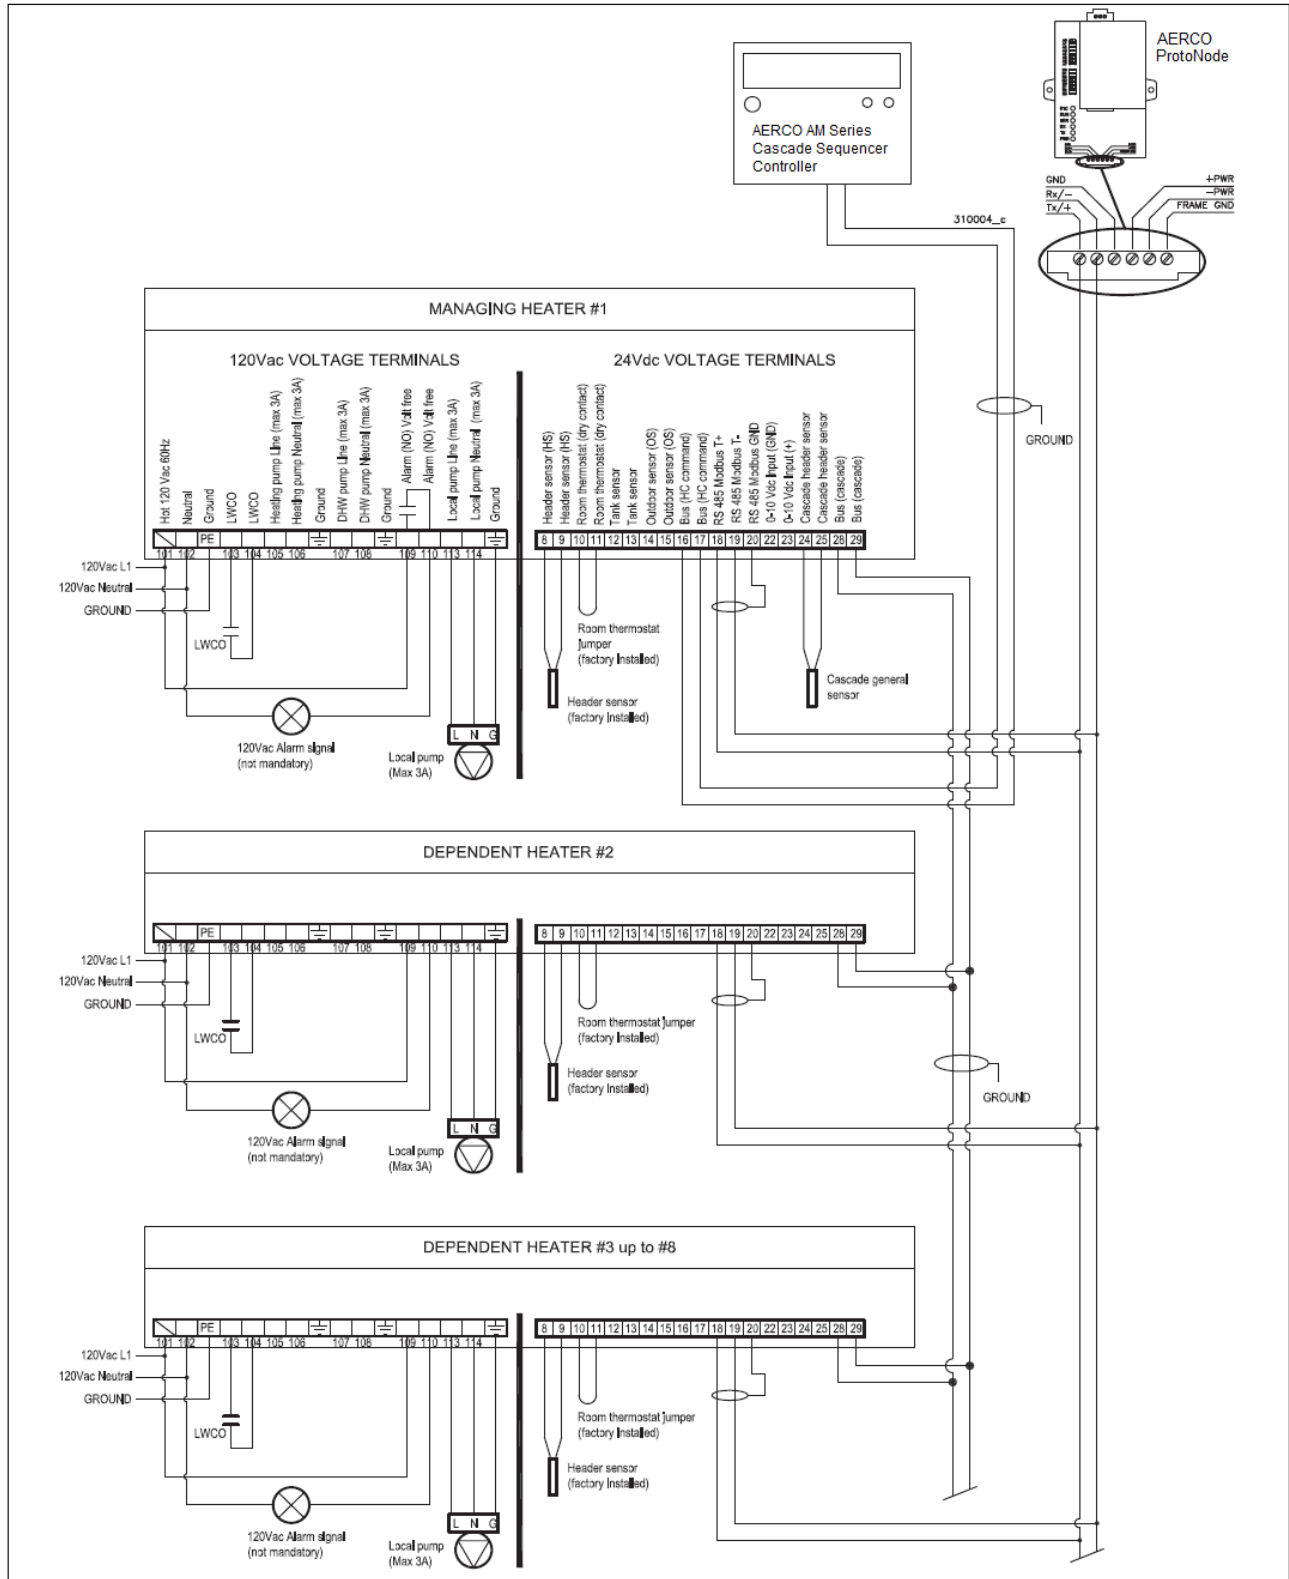
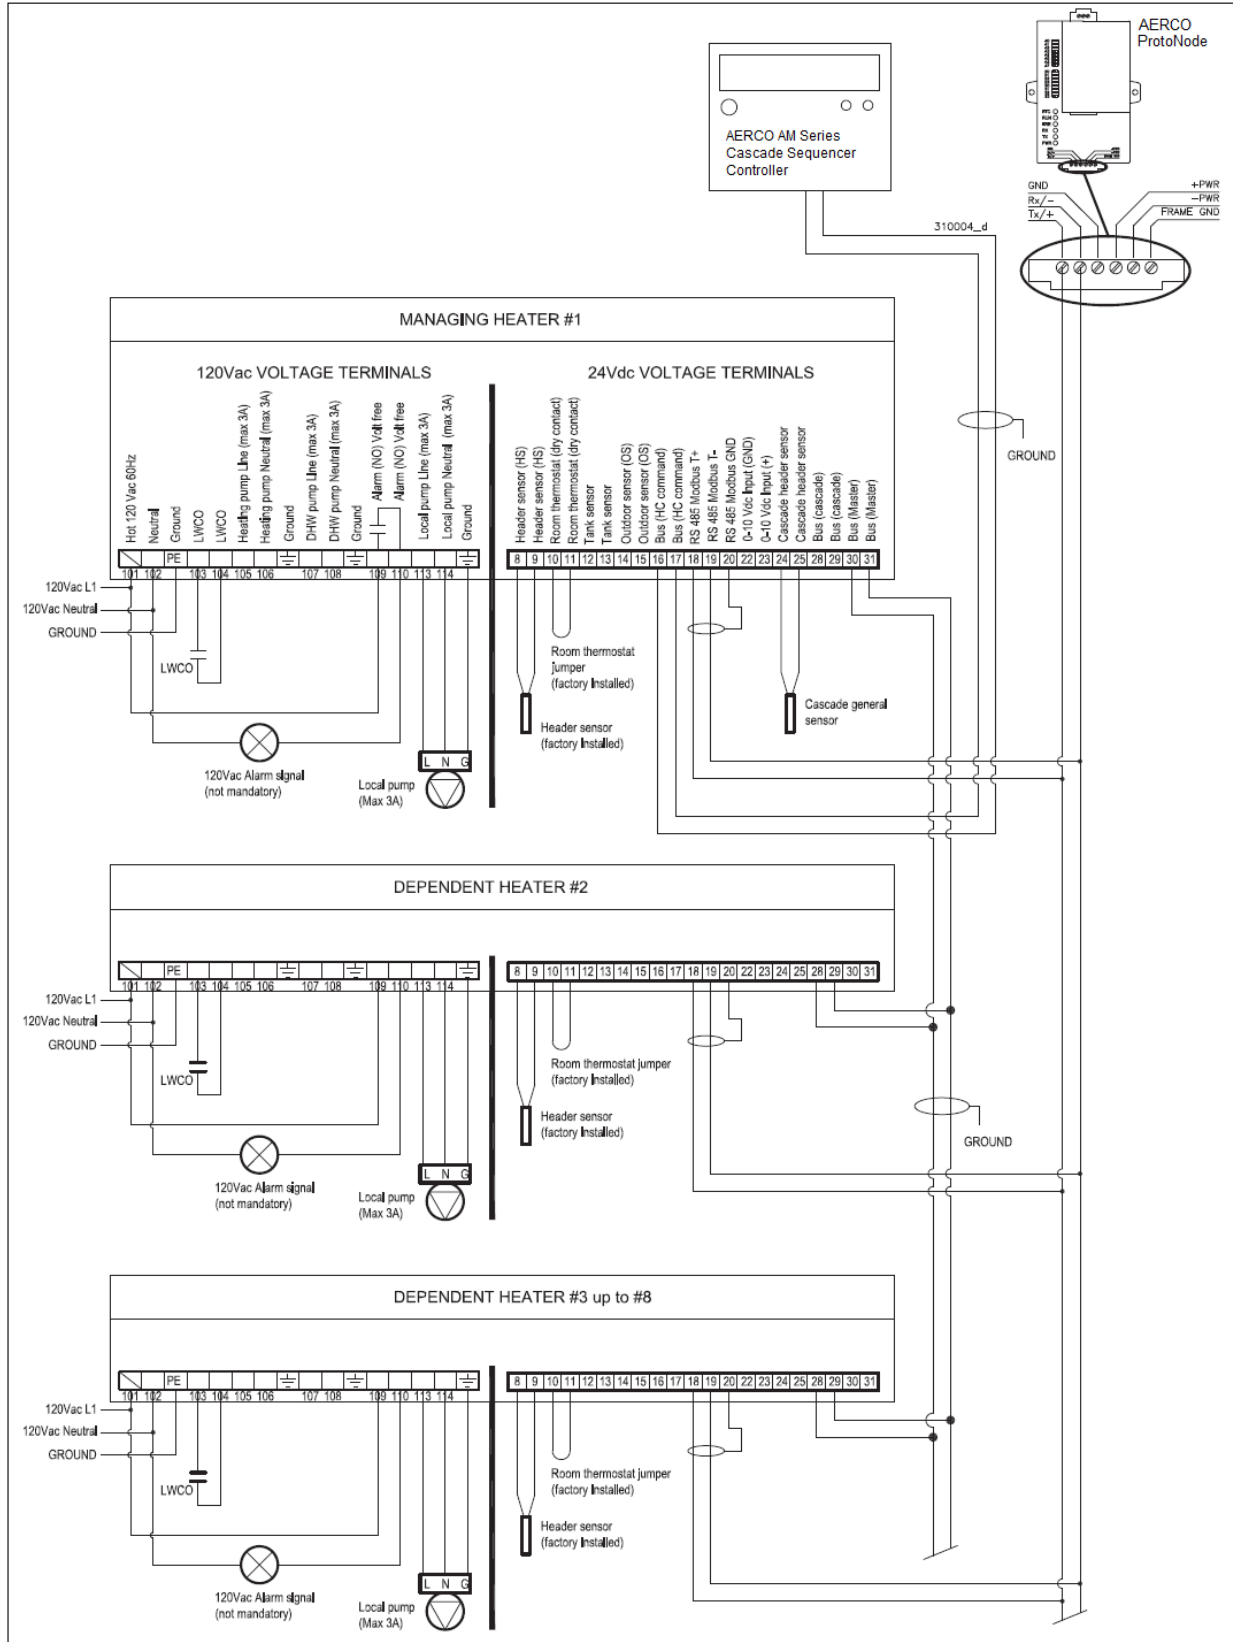

Figure I-1: MODBUS connection to AM Series boilers with serial number < 14999999
Figure I-2: MODBUS connection to AM Series boilers with serial number > 15000000
1. A daisy chain between terminals 28 and 29 of each heater should be already in place. Follow instruction in the *AM Series Cascade Sequencer Controller*, OMM-0101, GF-146-CS and Figure I-1, above. For heaters with serial number higher than 15000000, the Manager Heater needs to have the wiring connected to terminals 30 and 31, labeled **Bus (Master)**. See the *AM Series Cascade Sequencer Controller*, OMM-0101, GF-146-CS and Figure I-2, above.
2. Connect a daisy chain between terminals 18, 19 and 20 of all units (see Figure I-1 or I-2).
3. Connect the daisy chain to the Rx Tx terminals of the ProtoNode (see Figures I-1 or I-2).